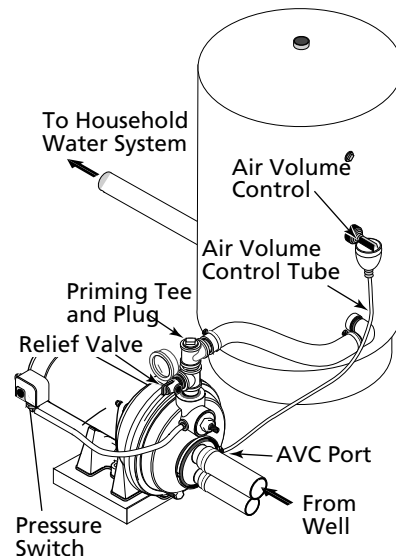

Figure 11 – Standard Tank Connections
STANDARD TANK CONNECTION (FIGURE 11)
4. Remove the 1/8" NPT pipe plug from the pump Air Volume Control (AVC) port (See Figure 11). Run tubing from the pump's AVC port to the port on the AVC mounted on the tank. See instructions provided with tank and AVC for details.